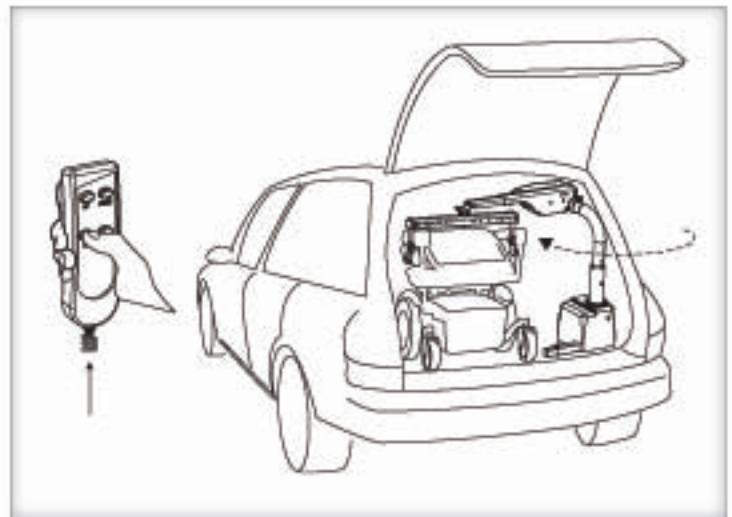

Figure 5-1
- 6. When the chair is raised enough to clear the bumper/threshold, rotate the chair or scooter into the vehicle by pressing the "IN" button. [Figure 5-1]**